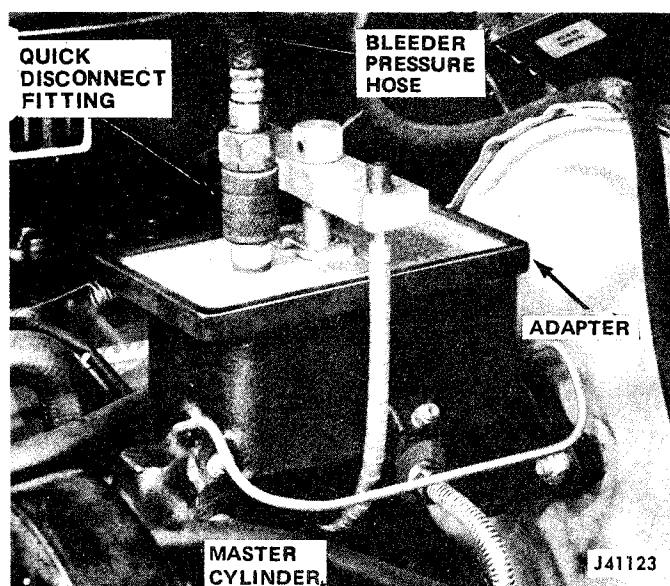

Fig. 2G-17 Pressure Bleeder Adapter Installation (Typical)
- (1) Remove all accumulated dirt from master cylinder and cover.
- (2) Remove cover and rubber diaphragm seal. Place cover on work bench or on lint-free cloth. Do not allow diaphragm seal to contact dirt or foreign material.
- (3) Fill master cylinder if required.
- (4) Install brake bleeder adapter cover on master cylinder (fig. 2G-17).
- (5) Connect hose from pressure bleeder to fitting on adapter and open pressure bleeder release valve.
(6) On vehicles with type-W combination valve, remove dust cover from metering valve stem and install tool J-26869 on stem to hold valve open (fig. 2G-15).
(7) On vehicles equipped with type-D combination valve, loosen valve front mounting bolt and insert slotted end of tool J-23709 under bolt. Push metering valve stem inward (using tool) to hold valve open and tighten mounting bolt to secure tool (fig. 2G-16).
- (8) Bleed brake system in following sequence: